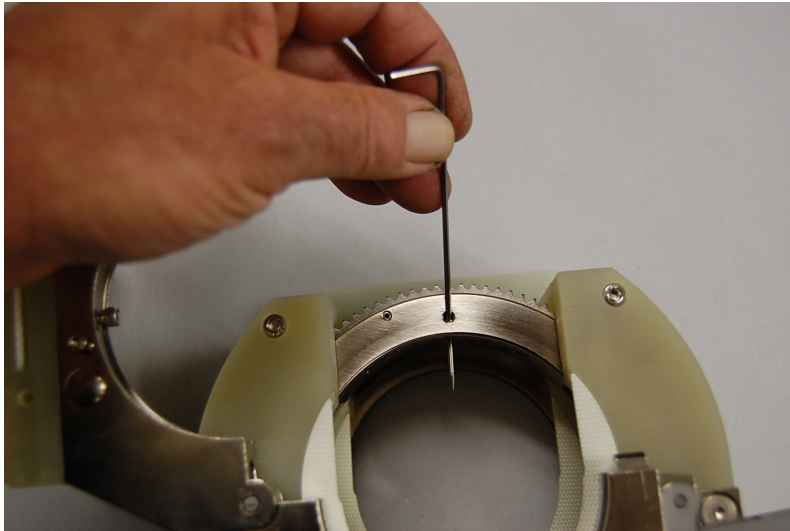

Fig. 13
- 7.3 To change electrodes, using the "JOG" button on the power supply or remote operators pendant, jog the rotor around until the electrode is in the 12 O'clock position. See fig. 13.
- 7.4 Lay the weld head on its side to prevent accidental dropping of the electrode into the weld head. Loosen the electrode set screw. See fig. 13